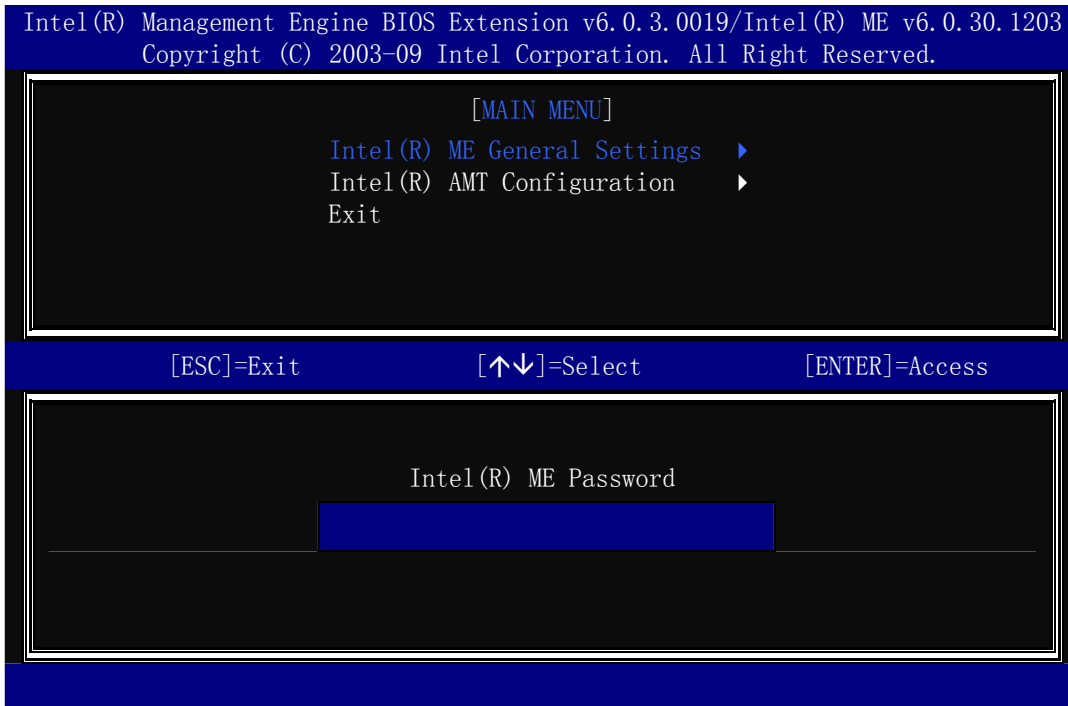

Figure A-2: Intel® Current ME Password
- Step 2:** Enter the Intel® ME password as it requires (**Figure A-2**). Enter the Intel® default password: **admin**.